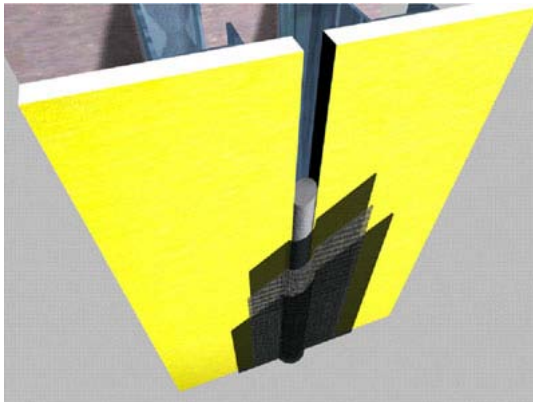

Figure 5
- 5.1.2.3. Using a brush or 19 mm (3/4 in) nap roller, apply a liberal coat of AquaFlash liquid material to the backer rod and adjacent substrate surface to the width of the AquaFlash Mesh - Figure 5.